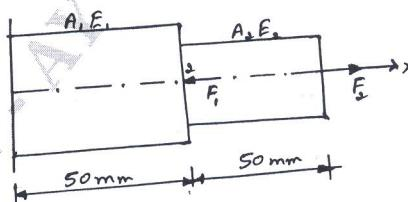

Fig Q5(a)
- 5 a. Using the direct stiffness method, determine the nodal displacement of stepped bar shown in Fig Q5(a)